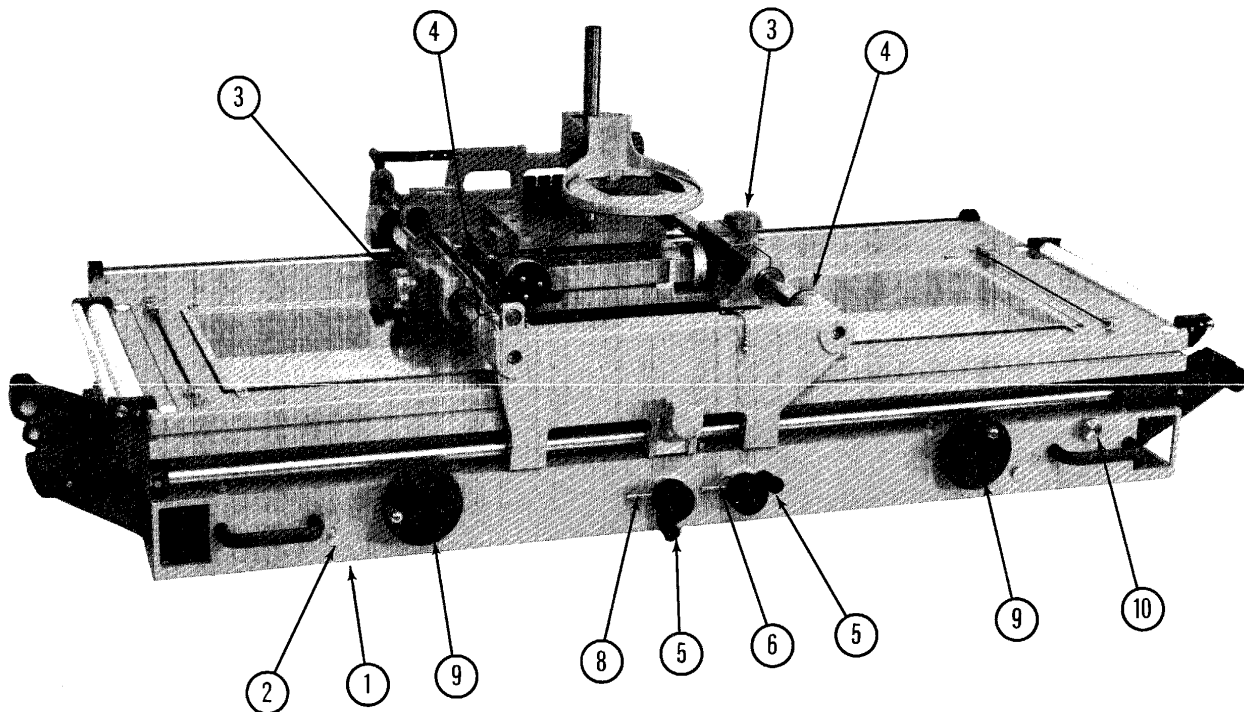
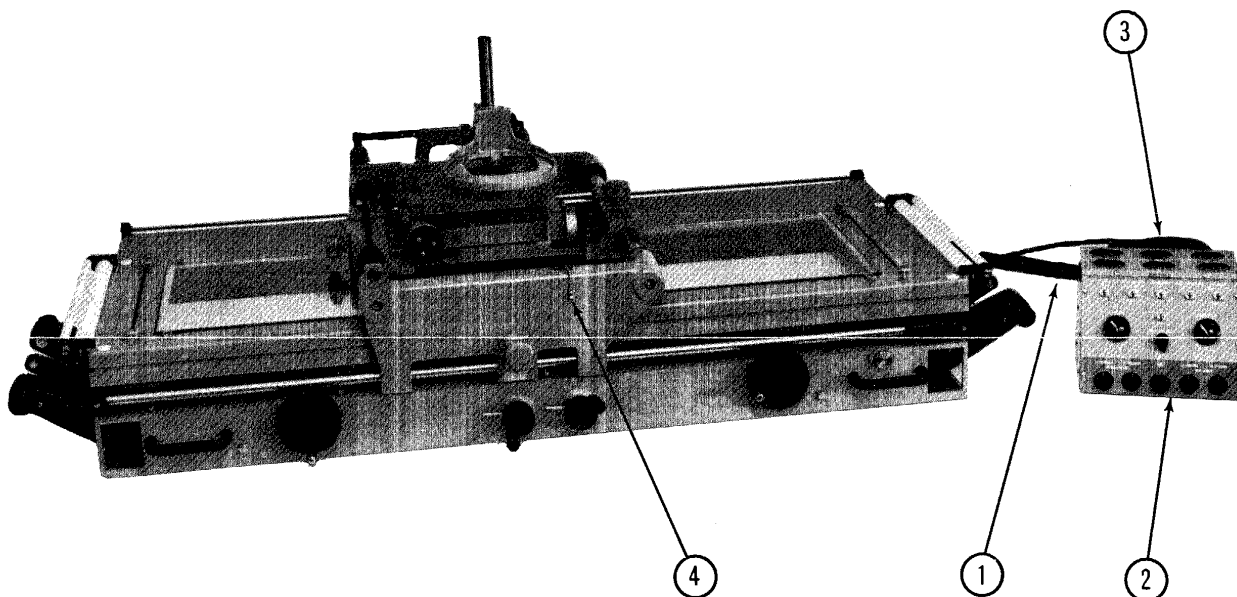
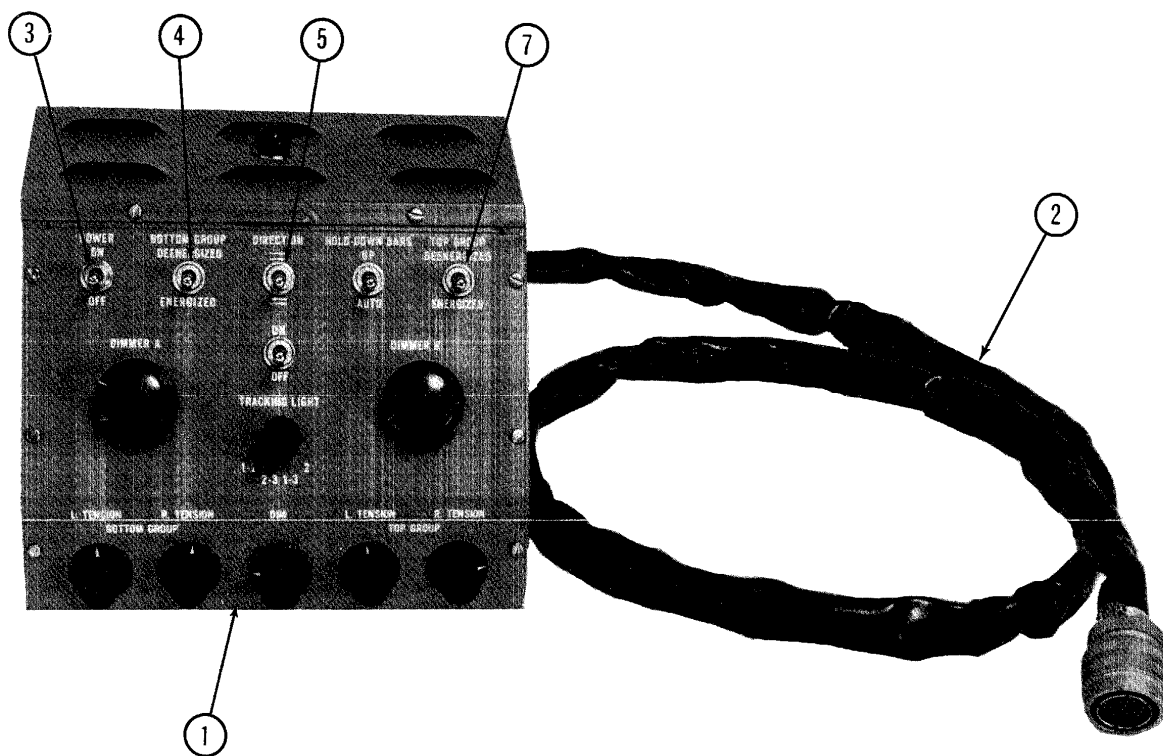
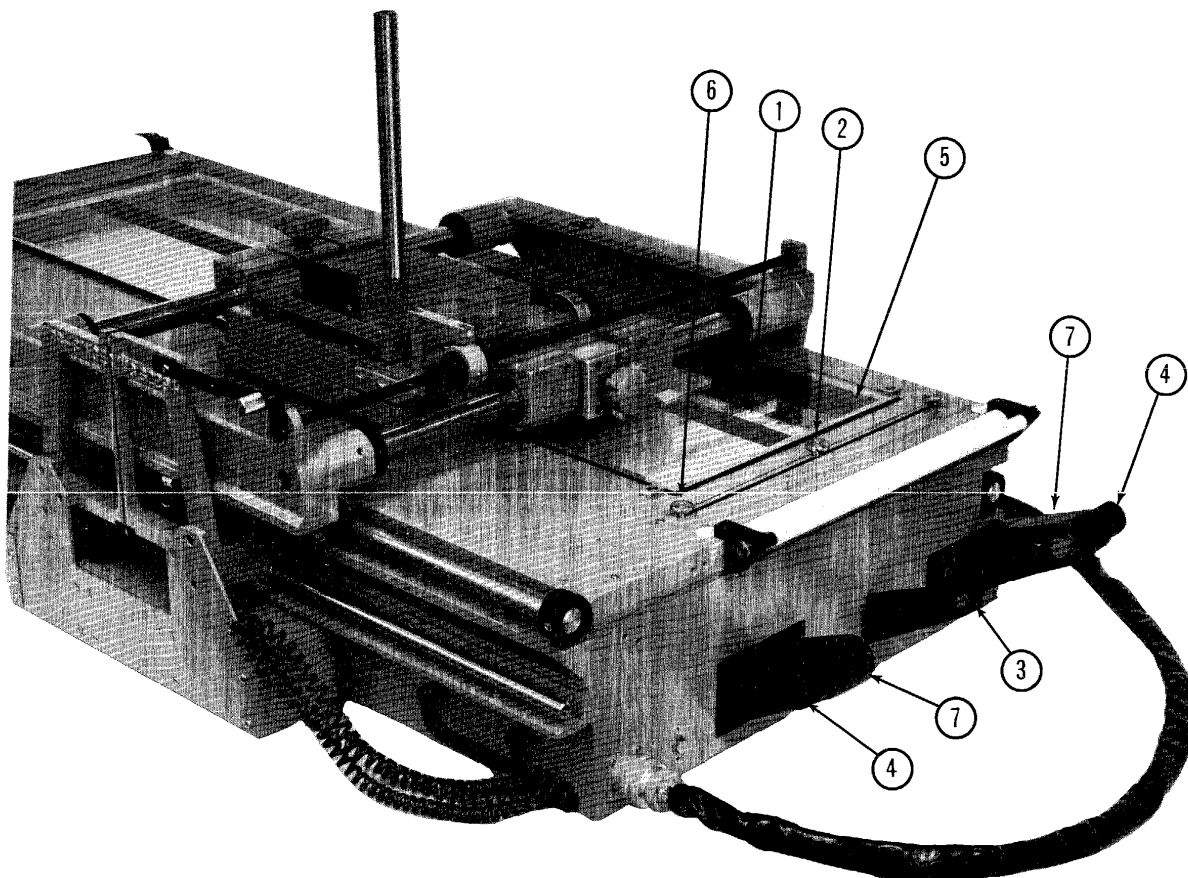

FIG. 1 ASSEMBLY - LIGHT TABLE
FIG. 2 ASSEMBLY - LIGHT TABLE AND CONTROL CONSOLE
FIG. 3 CONTROL CONSOLE AND CONTROL CABLE
FIG 5 LIGHT TABLE - DETAILS
The table must be leveled on a rigid support. Leveling will accomplish the freest operation of the microscope carriage; the rigid support will make possible the most accurate results when making a measurement. Leveling of the table is accomplished by adjusting the height of the four leveling pads (#1 Figure 1). Loosen the screw (#2 Figure 1), raise the table to the desired point, and tighten the screw securely.
An increase in height of two inches can be gained by lowering the leveling pads (#1 Figure 1). (See above paragraph for height adjustment.)
The table can be tilted from  $0^{\circ}$  to  $8^{\circ}$  with respect to the horizontal by proper adjustment of the leveling pads (#1 Figure 1). For maximum tilt the front leveling pads must be fully retracted and the rear pads fully extended. (For adjustment of the pads, see paragraph II. A. above.)
CAUTION: When the table is tilted, the microscope carriage is free to roll if the Y-Y brakes (#3 Figure 1) are not locked. The microscope carriage will be damaged if it falls free and strikes the stops (#4 Figure 1).
1. Connect the Master Control Panel (#1 Figure 1) to the Master Control Panel (#2 Figure 2) and to the proper connector in the side of the light table.
2. Connect the 120-volt 60-cycle power cords (#3 Figure 2) to the light table and the power line.
1. Turn the bottom film arm transport plate handle (#5 Figure 1) counterclockwise until the bottom film transport plate strikes the inner stop. Lock the brake (#6 Figure 1).
2. Turn the top film arm transport plate handle (#7 Figure 1) clockwise until the top film arm transport plate strikes the inner stop. Lock the brake (#8 Figure 1).
3. Position the center shade (#1 Figure 5) in the center of the viewing area by first loosening the thumb screw (#2 Figure 5) at each end of the shade and then sliding the shade to the correct position. Tighten the thumb screws.
4. Install center film arms (#3 Figure 5).
5. The film spools may now be loaded by retracting the spring loaded spool holders (#4 Figure 5).
1. Turn the bottom film arm transport plate handle (#5 Figure 1) clockwise until the bottom film transport plate strikes the outer stop. Lock the brake (#6 Figure 1).
2. Turn the top film arm transport plate handle (#7 Figure 1) counterclockwise until the top film arm transport plate strikes the outer stop. Lock the brake (#8 Figure 1).
1. Turn the bottom film arm transport plate handle (#5 Figure 1)
clockwise until the bottom film transport plate strikes the outer stop. Lock the brake (#6 Figure 1).
2. Turn the top film arm transport plate handle (#7 Figure 1) until the inner edge of the film arm (#5 Figure 5) is in line with the 9.5" film marker (#7 Figure 3). Lock the brake (#8 Figure 1).
3. Position the center shade (#1 Figure 1) at the extreme upper edge of the viewing area by loosening the thumb screws (#2 Figure 5) at each end of the shade and sliding the shade to the correct position.
4. Remove the center film arms (#3 Figure 5), if installed.
CAUTION: When Viewing 9.5" Film, The Direction Switch (#5 Figure 3) Must Be In The  (Same Direction).
1. The "Power" switch is used to turn the table ON and OFF (#3 Figure 3).
2. The "Bottom Group" switch controls the bottom film transporting system (#4 Figure 3).
3. The "Direction" switch controls and indicates the mode of film travel (#5 Figure 3).
4. The "Top Group" switch controls the top film transporting system (#7 Figure 3).
The Light Table is equipped with shades. The function of the shades is to mask out the area of light source not being used. When film is viewed which does not cover the entire viewing surface, the shades (#5 Figure 5) may be drawn by loosening the thumb screws (#6 Figure 5) and sliding the shades to the desired position.
When two rolls of film are viewed, the center strip between the two rolls of film may be shaded by using the center shade (#1 Figure 5). This can be done by loosening the thumb screws (#2 Figure 5) and sliding the shade to the desired position and then tightening the thumb screws.
The film drive mechanism is hand operated by means of either of two cranks (#9 Figure 1) on the front side.
Although the film drive mechanism is hand operated, the clutch-brake units operate only when power is applied to the desired unit. A clockwise rotation of one of the front hand wheels (#9 Figure 1) will transport film from left to right when operating with the "DIRECTION" switch in the  $\Rightarrow$  same mode. When the "DIRECTION" switch is changed  $\Leftarrow$ , the
A two-speed mechanical gear shift (#10 Figure 1) is provided to switch the film transporting mechanism from low speed to high speed. When the gear shift rod (#10 Figure 1) is "pulled out," the film drive mechanism is in the "fast" mode.